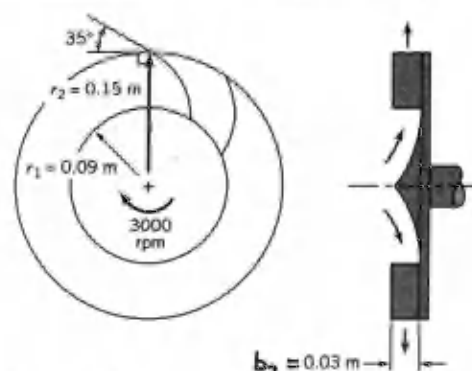

FIGURE P12.3R
12.3R (Centrifugal pump) Shown in Fig. P12.3R are front and side views of a centrifugal pump rotor or impeller. If the pump delivers 200 liters/s and the blade exit angle is  $35^\circ$  from the tangential direction, determine the power requirement associated with flow leaving at the blade angle. The flow entering the rotor blade row is essentially radial as viewed from a stationary frame.